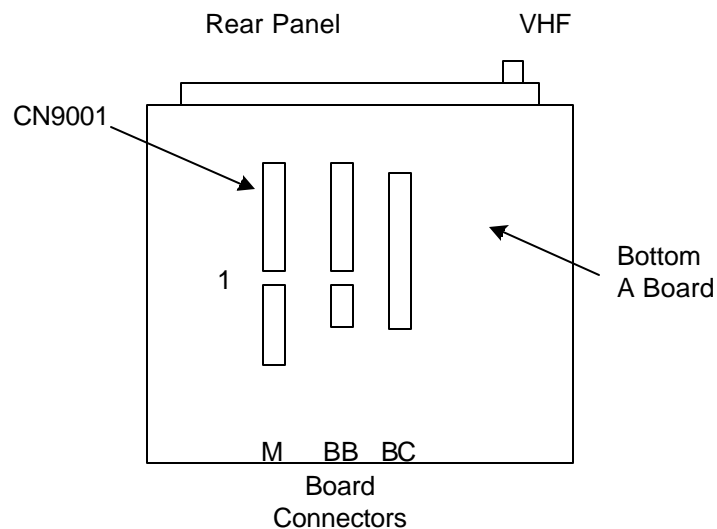

FIGURE 25-2 - TV BOARD ASSEMBLY
1. The front panel power ON button is pressed. CN1921/pin 48 goes LOW (0Vdc – see Figure 25-2 for the location of CN1921/CN9001).
3. This 5Vdc passes through the A board into the power supply (G) board at CN1605/pin 5 = 5Vdc.